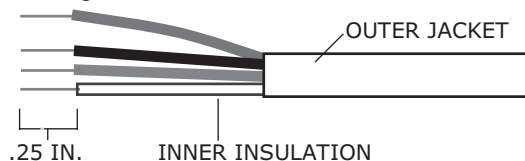

Fig. 29 — Rnet Cable Wire
2. Strip about 1/4 in. of the inner insulation from each wire. See Fig. 29.